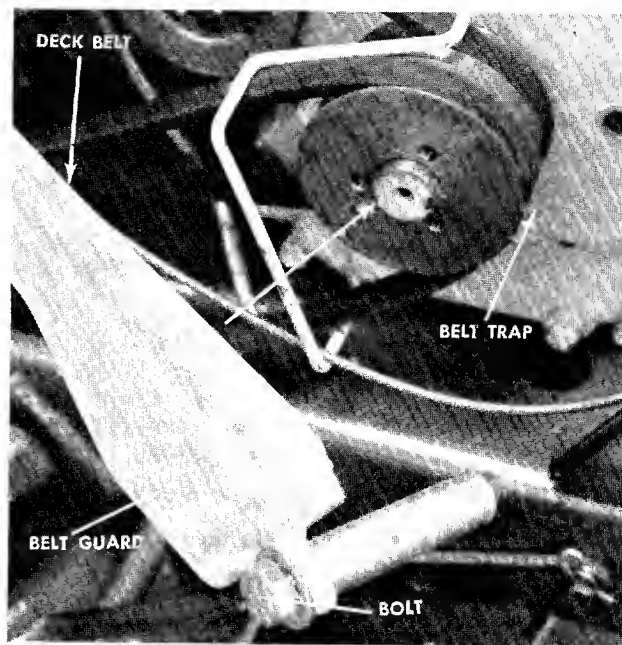

FIGURE 7. ATTACHING THE BELT
- f. Remove the bolt holding the front of the belt guard in place on the engine and swing the belt guard out of the way. See figure 7.